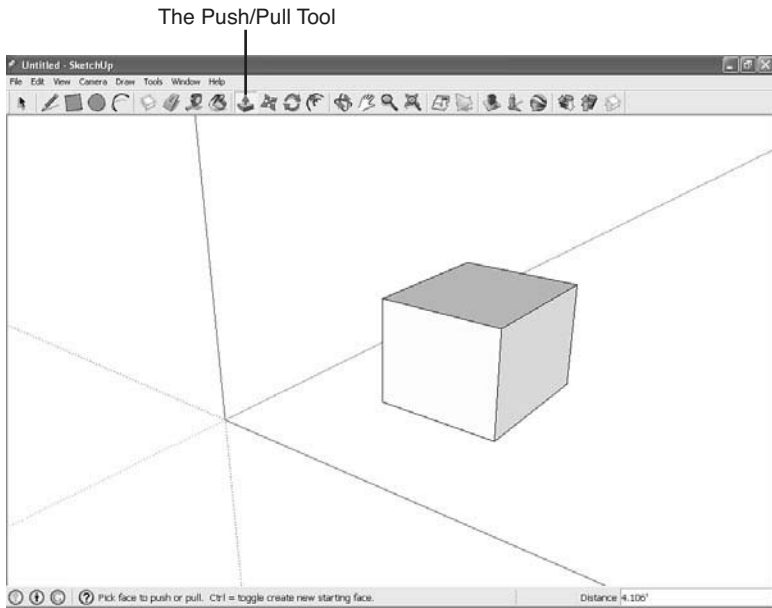

FIGURE 5.2 The Push/Pull tool and the resulting cube.
Now, what you really want is a cube, so to transform the rectangle, we'll use the Push/Pull tool, as shown in Figure 5.2.
When you use the Push/Pull tool (shown in Figure 5.2), you literally pull the rectangle into a 3D shape. This tool is at the center of what SketchUp does for you, so it's an important one to learn.
3. Click the **Push/Pull tool** in the toolbar (shown in Figure 5.2).
6. Release the mouse button. The object becomes 3D, as you can see in Figure 5.2. As you can see, pulling shapes into 3D is one of the coolest features in SketchUp.